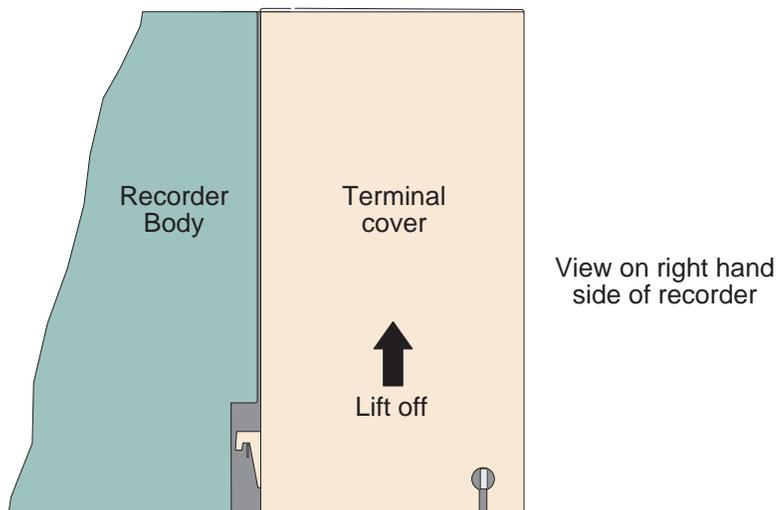

Figure 8.2.2c Lift terminal cover off its hinge.
- 7 Close the terminal cover, and lift it off, as indicated in figure 8.2.2c.